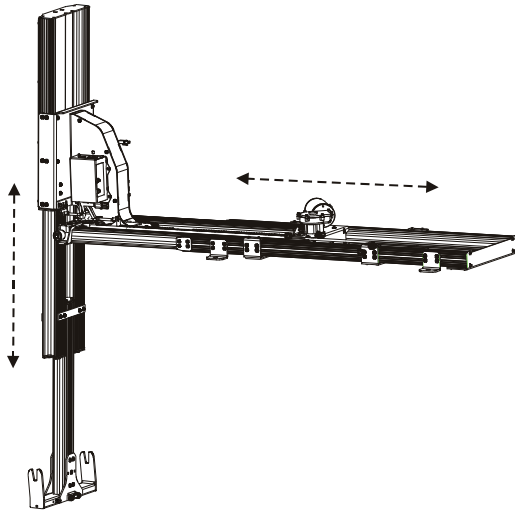

Figure 7-2
2. Run the lift "OUT" and "DOWN" to full extension and remove the platform for easier access if possible. *See Figure 7-2.*